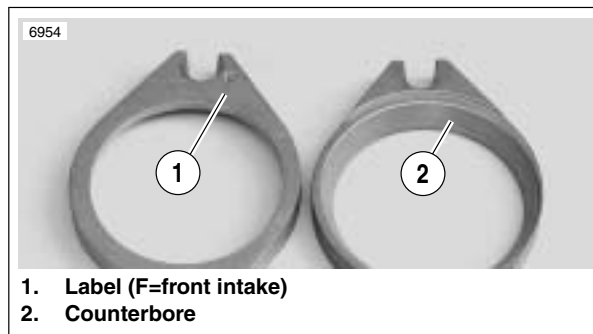

Figure 4-107. Intake Flanges
1. See Figure 4-107. Install front and rear intake flanges onto throttle body with the counterbore facing out. Each intake flange is labeled and the pieces are not interchangeable.